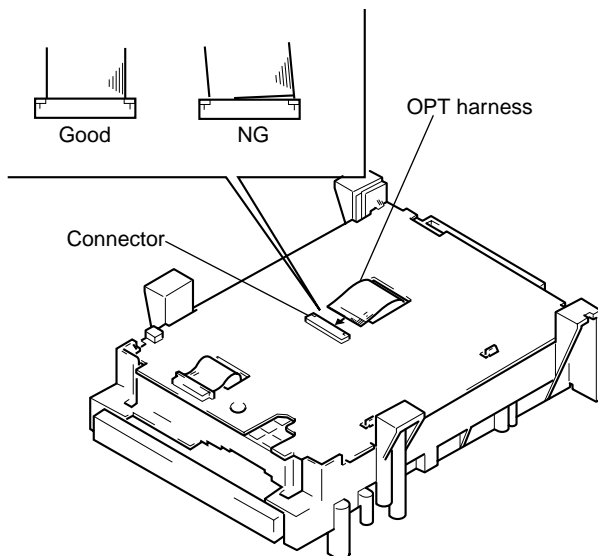

Fig. 14
- 1) The optical pick-up could be destroyed unless the OPT harness is connected normally to the connector. (See Fig. 14)